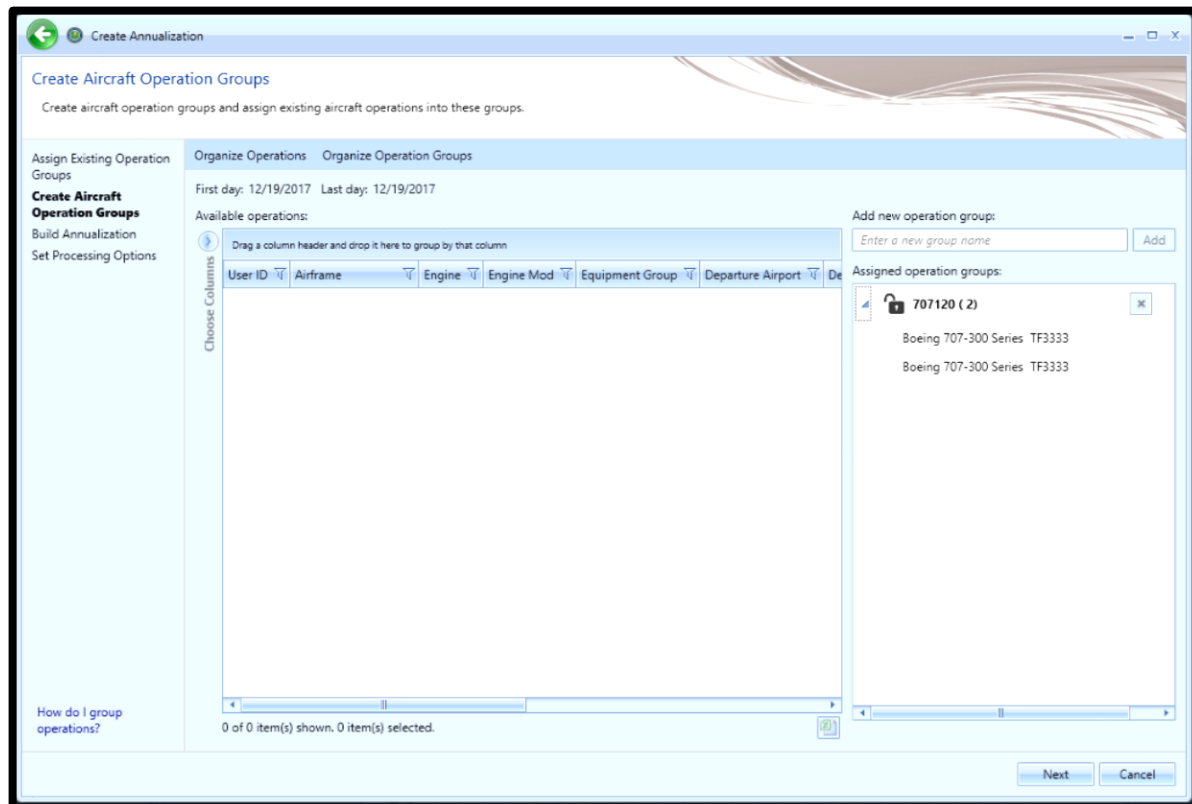

Figure 23- Create Aircraft Operations Groups
5. On *Create Aircraft Operation Groups*, enter “707120”. Select *Add* (Figure 23).